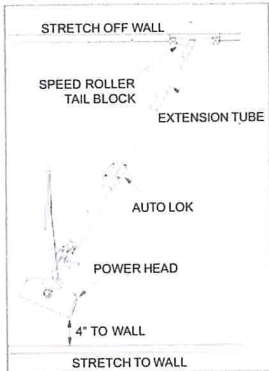

Figure 1
- A. Place Power Head 4 inches from starting wall at the prescribed angle for the kind of carpet you are installing. (See figure 1.) See stretch pattern diagram below for general rules, but always follow the carpet manufacturer's recommendations.